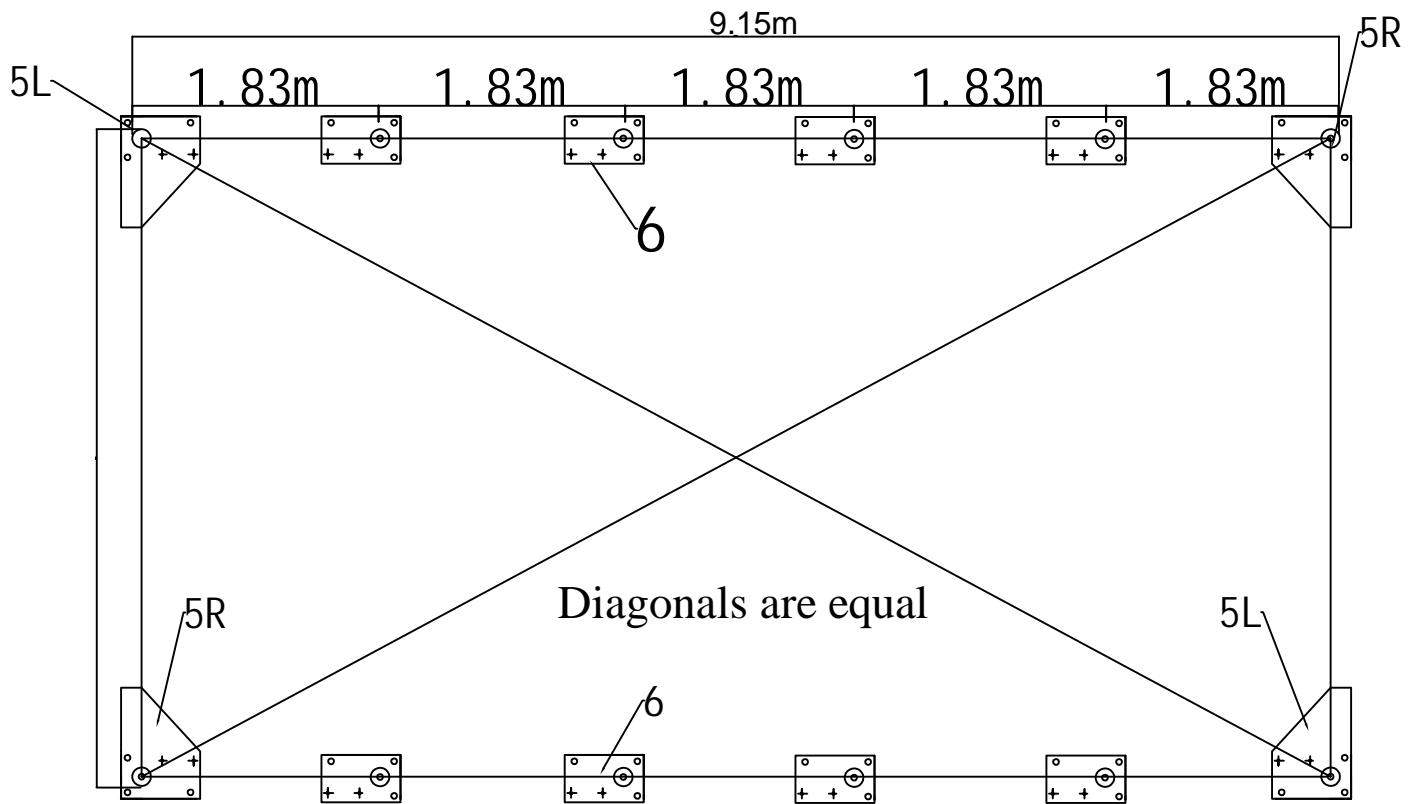

Figure 2 Position of Base Flanges
Begin by determining exact location of the four (4) corners of the building. Mark front edge and side-to-side width of assembly on ground. Drive alignment stakes into the ground outside of the markings, and draw alignment strings along both ends and sides of the building to the dimensions shown in Figure 2. The outline of the strings will represent the final location of the base flanges. The initial location of each Corner Base Flanges (5R & 5L) is critical to the alignment and fit of the frame components and cover.
Locate the Left Corner Base Flange and Right Corner Base Flange (5R & 5L). Secure the base flanges with Stake Pegs (Part #13). Measurements shown in Figure 2 are to the center of the upright sockets on each Base Flange. The Shelter must be secured to a firm surface that can receive and retain augers and pegs firmly in position. The shelter should be installed on FIRM GROUND, not on SWAMP, SOFT/WET GROUND. The Base Flanges must be secured so they cannot be moved. Arches are tensioned at their base as they insert into the Base Plate sockets.